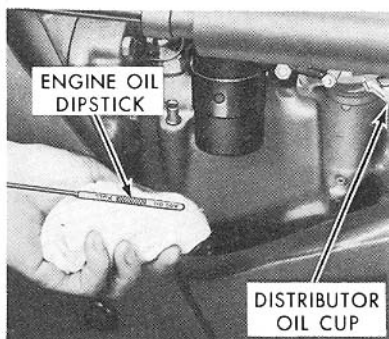

Figure 23
**Distributor:** Place a few drops of seasonal engine oil in the oil cup. Do not over lubricate. (See Figure 23.)